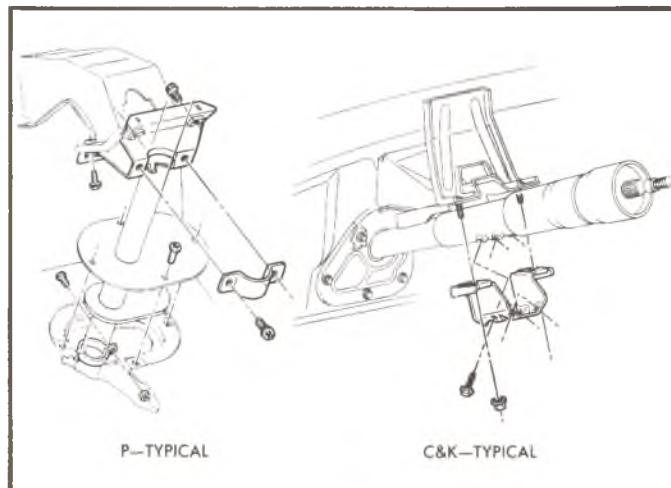

Fig. 62—Steering Column to Dash Panel - C, P and
7. Remove the screws securing the two halves of the floor pan cover; then remove the screws securing the halves and seal to the floor pan and remove the covers (figs. 62 and 63).